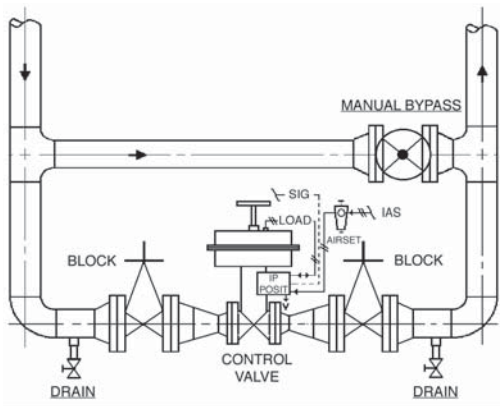

Figure 1: Typical Control Valve Station
1. It is recommended that the control valve unit be installed with a double-block and bypass as indicated in Figure 1. This arrangement is recommended especially where maintenance will be done on the valve body while still installed in the pipeline.
- Recommend startup to be in a “manual” mode. This procedure assumes double block (isolation) and bypass valves for the “control valve station”. See Figure 1.